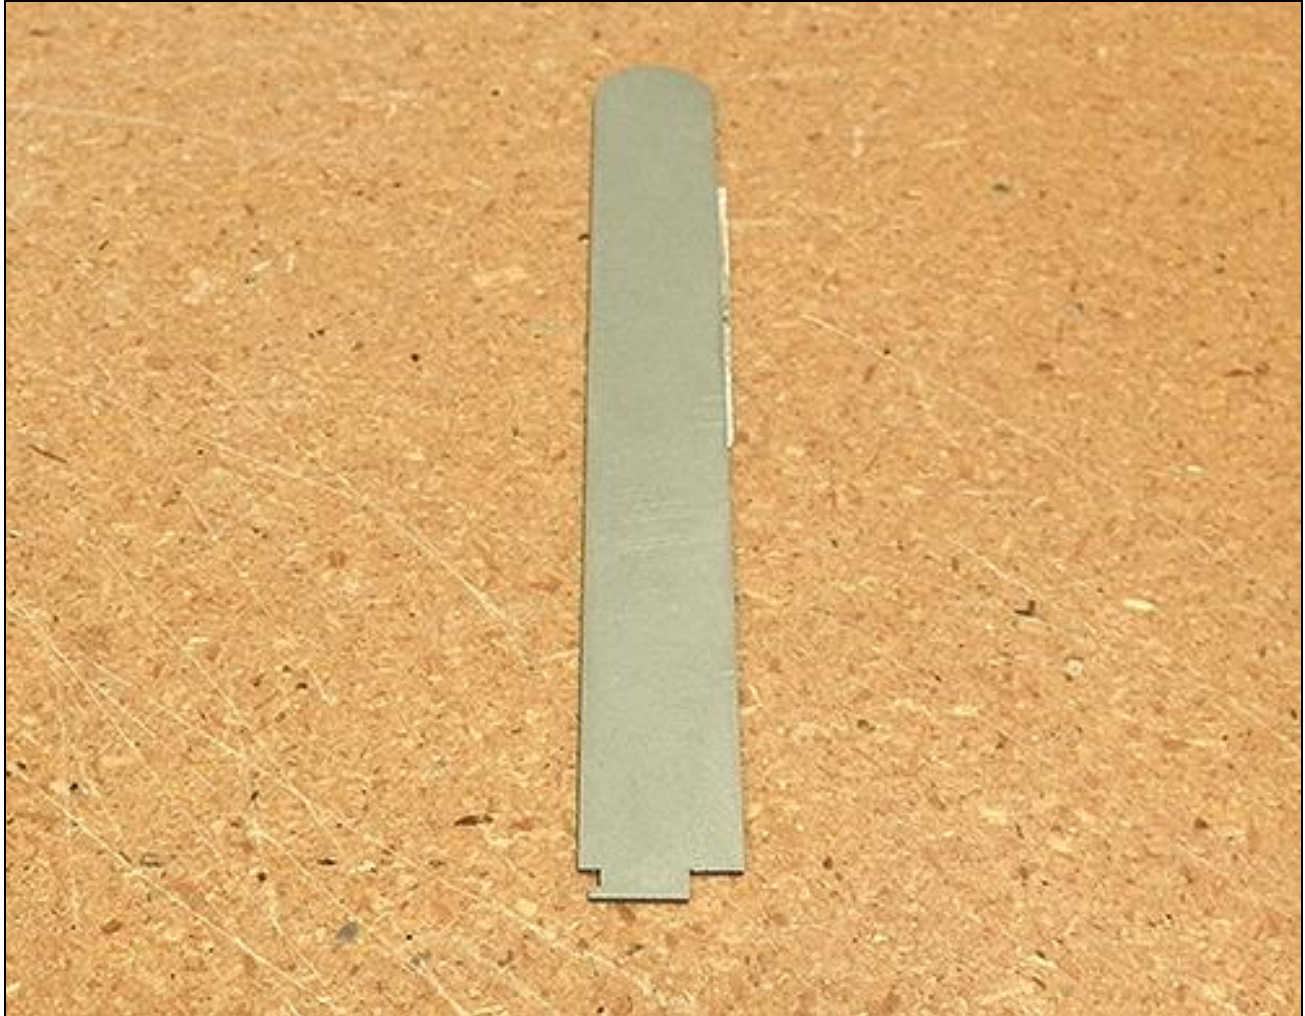

Figure 1
- One Airbag Socket Depth Gauge shown in Figure 1, was sent to each dealer.